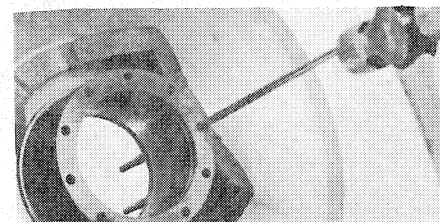

Fig. 6
2. Using a 1/8" drift pin, drive broken pin stubs from tapered holes as shown in Fig. 6.